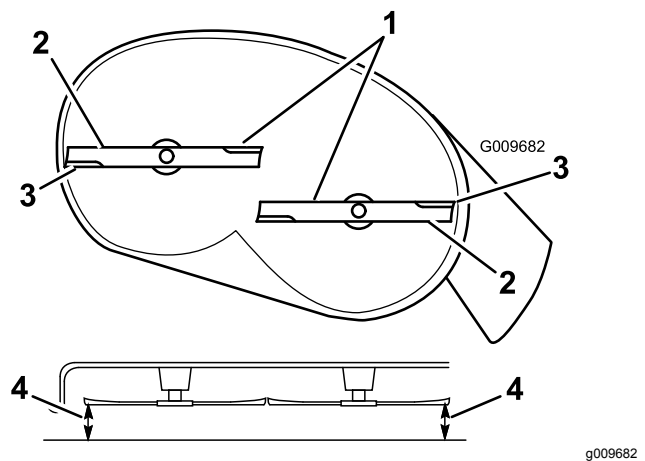
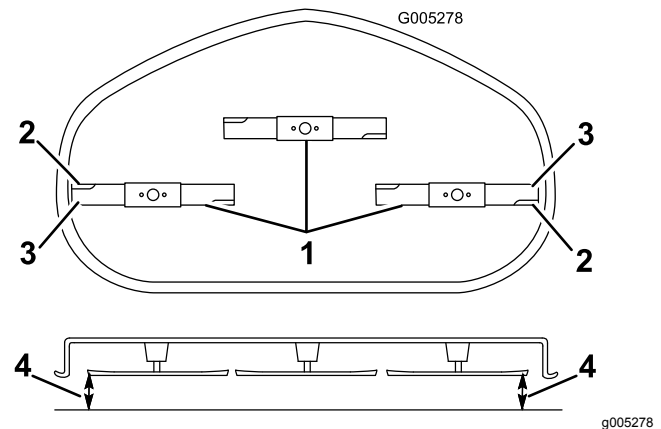

Figure 58
Figure 59
4. Carefully rotate the blades so that they are all side to side (Figure 58 and Figure 59).
5. Measure between the outside cutting edges and the flat surface (Figure 58 and Figure 59).